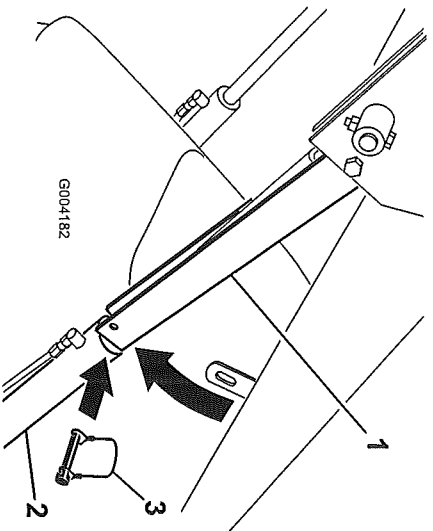

Figure 24
4. Remove the lynch pin securing the cylinder lock to the loader arm (Figure 24).
5. Lower the cylinder lock over the cylinder rod and secure it with the lynch pin (Figure 24).